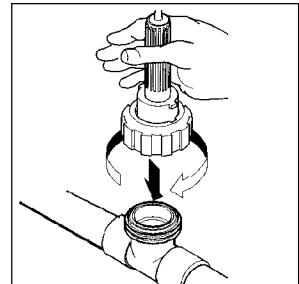

FIGURE 17
9. Use ARROW keys to move prompt to **HIGH**, press ENTER. Prompt will flash. Use ARROW keys to input **10.0 PH** and wait two minutes with the entered value flashing. Reinstall pH sensor into flow assembly (see fig. 17), close sample valve and open isolation valves. Press ENTER, prompt will stop flashing.
9. Reinstall ORP sensor into flow assembly (see fig. 17), close sample valve and open isolation valves.